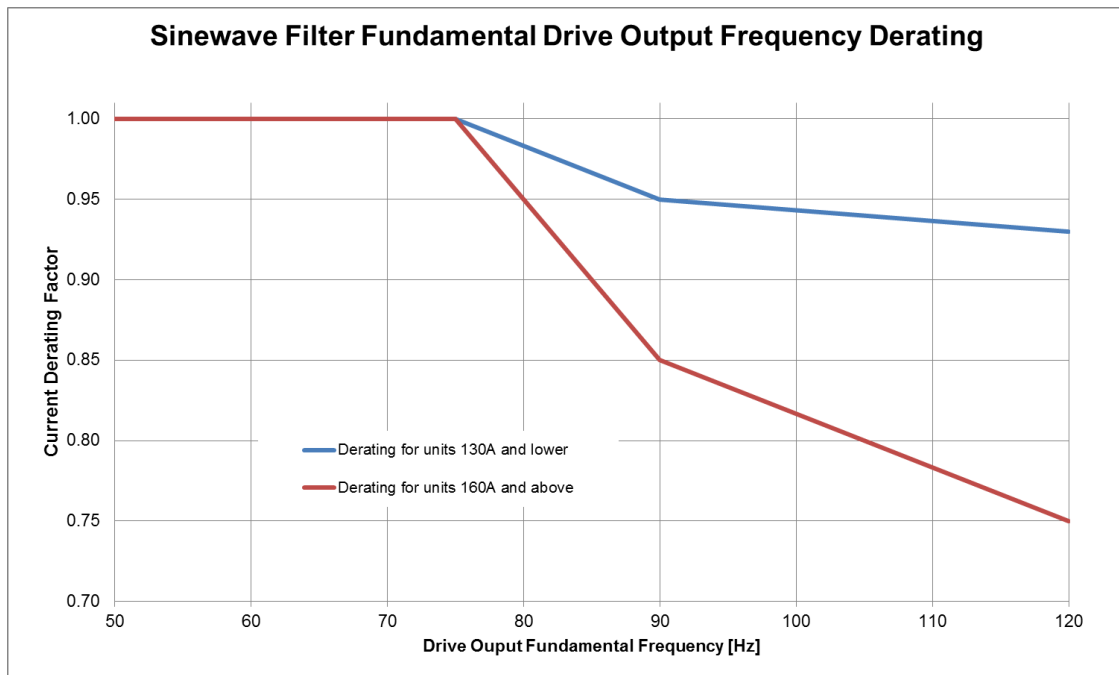

Figure 3-4: Motor Frequency Derating
- Drive Output Frequency:** Support for 6Hz to 75Hz without derating, >75Hz to 120Hz with derating. See Figure 3-4: Motor Frequency Derating (p10) for derating curve.